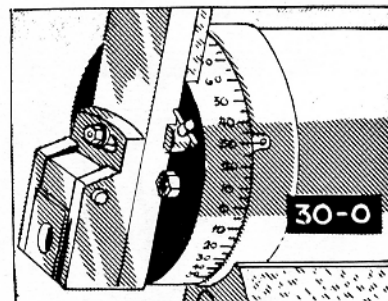

FIG. 410
5. Loosen the locking screws for the tool head, and swivel the head to the right until the  $30^{\circ}$  graduation coincides with the zero mark on the ram (Fig. 410). This will be the setting if the graduations start with a zero on the swivel head when it is in a vertical position.